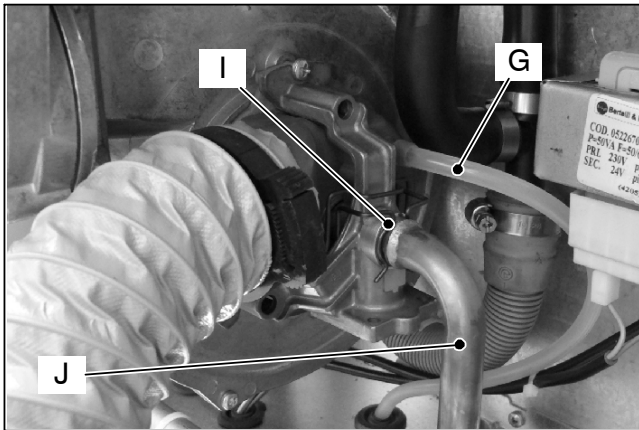

Fig. 8.6 (right side of the fan)
- 4 Disconnect the rubber pipe G (Fig. 8.6).
- 6 Remove the fixing fork I and remove the gas pipe J (Fig. 8.6).